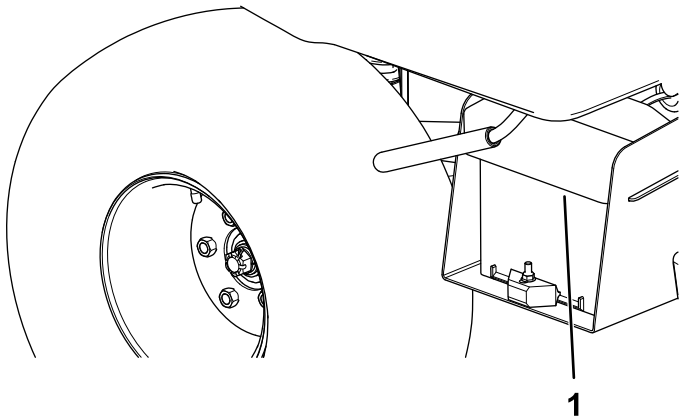

Figure 4
1. Squeeze the battery cover to release the tabs from the battery base (Figure 4).
2. Remove the battery cover from the battery base (Figure 4).
6. Align the battery cover to the battery base (Figure 4).
7. Squeeze the battery cover, align the tabs to the battery base, and release the battery cover (Figure 4).